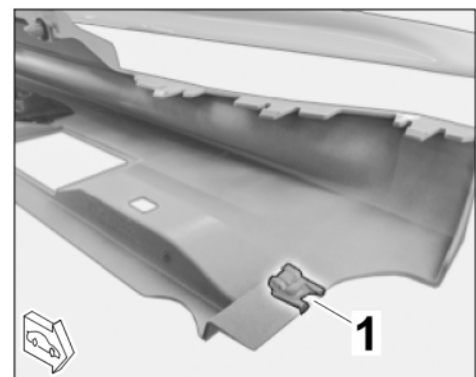

Figure 43
- 7.3.4 Install speed nut at the front of the sill cover (\Rightarrow *Figure 43*).